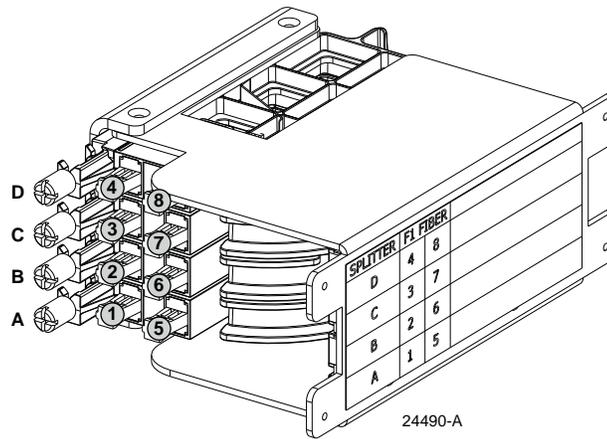

Figure 21. Splitter Input Port Designations
2. Splice the feeder cable fibers to the appropriate splitter input fibers following local policies and procedures. Refer to Table 3 and Figure 21 identify the splitter input fiber designations.